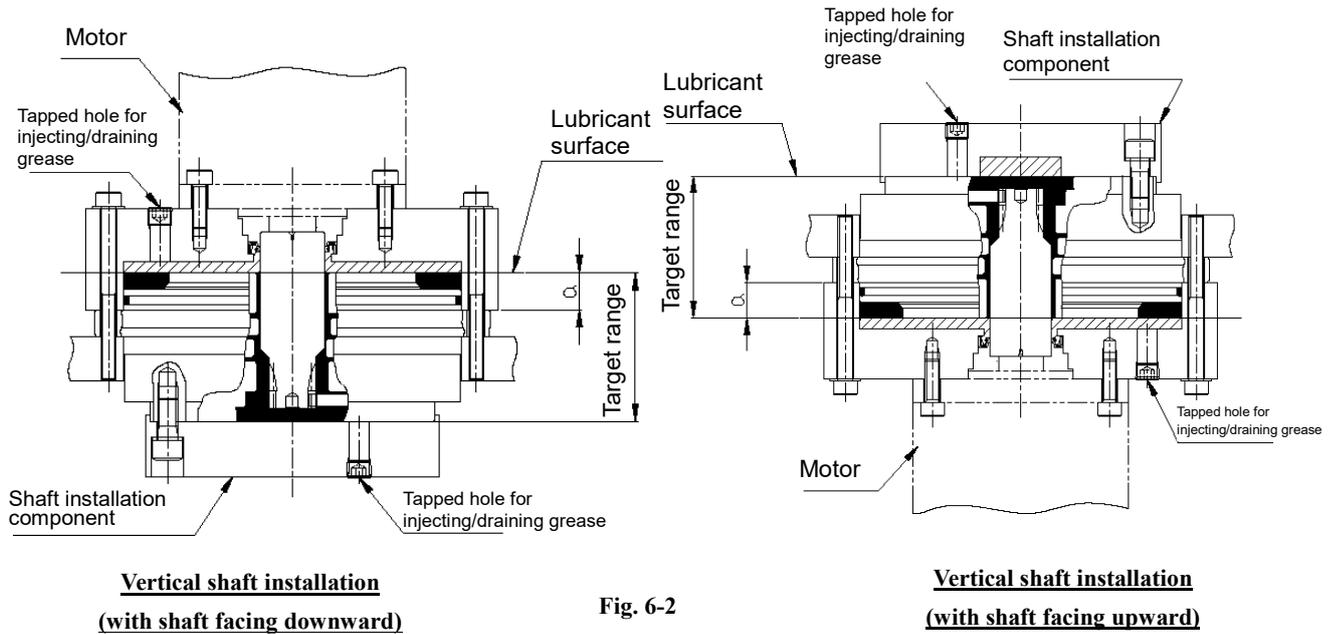

Fig. 6-2
- The shape of the reduction gear may differ from the illustration in Fig. 6-2 above, depending on the ordered specifications. For details on the shape, refer to the separately provided “Outer dimensions” drawings and specification sheet.